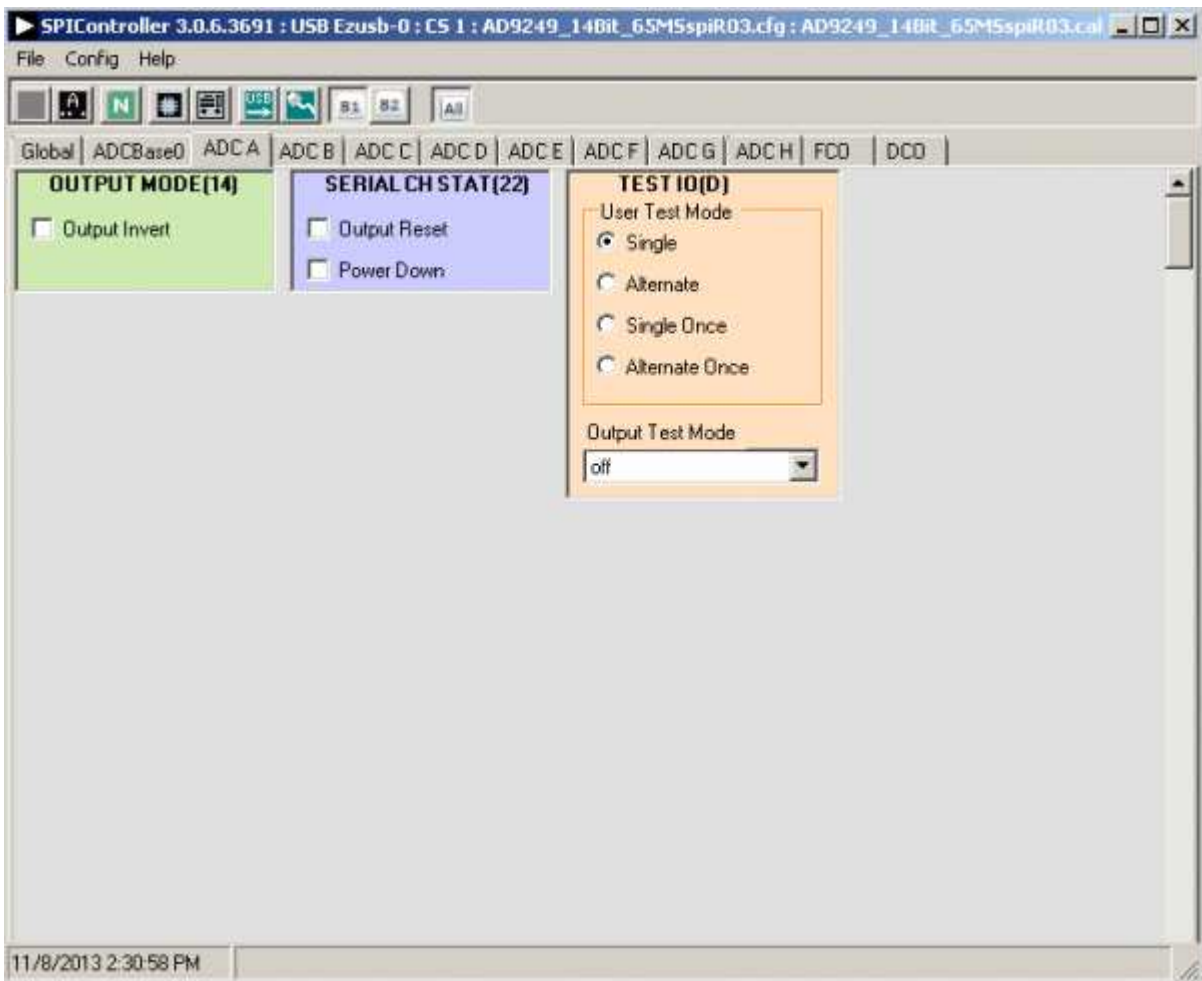

Figure 11. SPI Controller, Example ADC A Page
4. Note that other settings can be changed on the **ADCBase 0** tab (see Figure 9) and the **ADC A** through **ADC H** tabs (see Figure 11) to set up the part in the desired mode. The **ADCBase 0** tab settings affect the entire part, whereas the settings on the **ADC A** through **ADC H** tabs each affect the selected channel only. The B1 (Bank1), B2 (Bank2) and All buttons at the right end of the SPIController button row (as seen in Figure 10 and Figure 11) determine which bank of ADCs is affected by the SPIController settings. The All button is pushed by default which means that the **ADCBase 0** tab settings affect all channels on both ADC banks. The settings in the **ADC A** through **ADC H** will likewise affect their respective channels in both banks. For example, with the All button pushed, settings in the **ADC A** tab will affect channels A1 and A2. If the All button is un-pushed and the B1 (Bank1) button remains pushed, the settings in the **ADC A** tab will only affect channel A1. See the data sheet, the AN-878 Application Note, High Speed ADC SPI Control Software, and the AN-877 Application Note, Interfacing to High Speed ADCs via SPI, for additional information on the available settings.